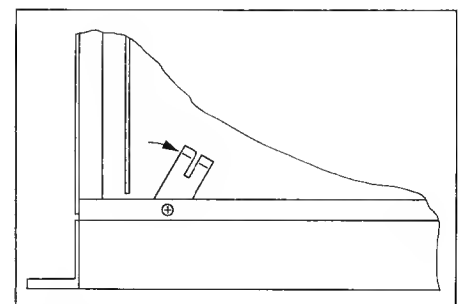

Fig. 4.12
- Unfasten the left-hand tensioning spring of the housing cover by means of a screwdriver for recessed-head screws and turn to the right to prevent short circuit with the contacts of SERVO 2 PCB (see Fig. 4.12).